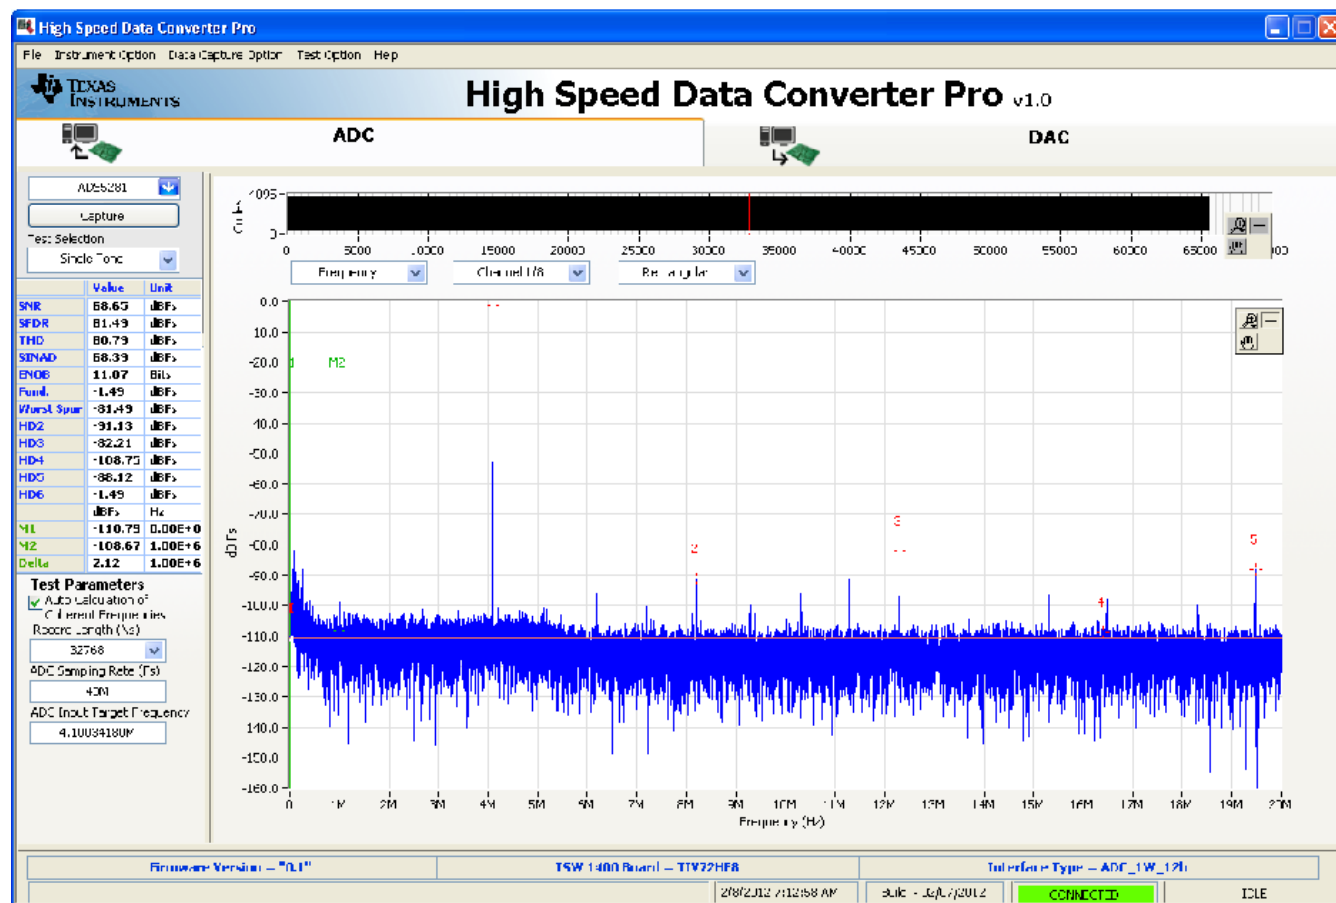

Figure 25. ADC5281 Single Tone FFT Capture Results
- Click on the “Capture” button to perform a data capture. The results should like similar to those shown in Figure 25.